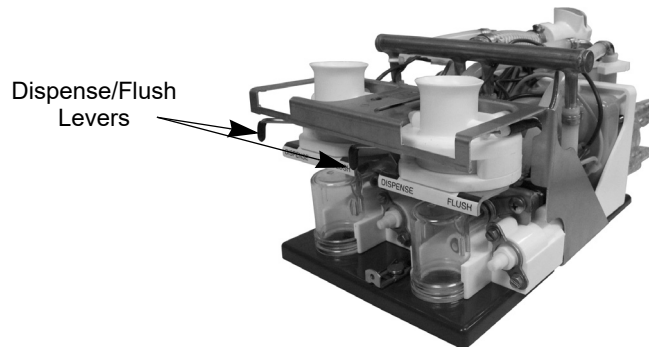

Figure 2. Dispense/Flush Lever Location
1. Open the cabinet door and move the valve handle from the **Dispense** to **Flush** position, see Figure 2.